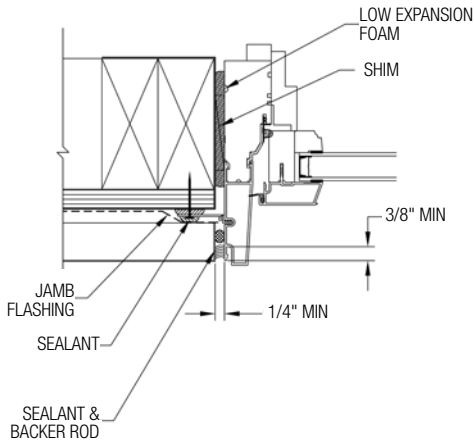

FIG. 18
- B) **WARNING:** Maintain a minimum of 1/4" between the window frame and any trim, siding or masonry. Failure to do so will forfeit all warranties (written or implied). Windsor Windows & Doors will not be held responsible for any claims or damages resulting from failure to follow these instructions. (Fig.18)